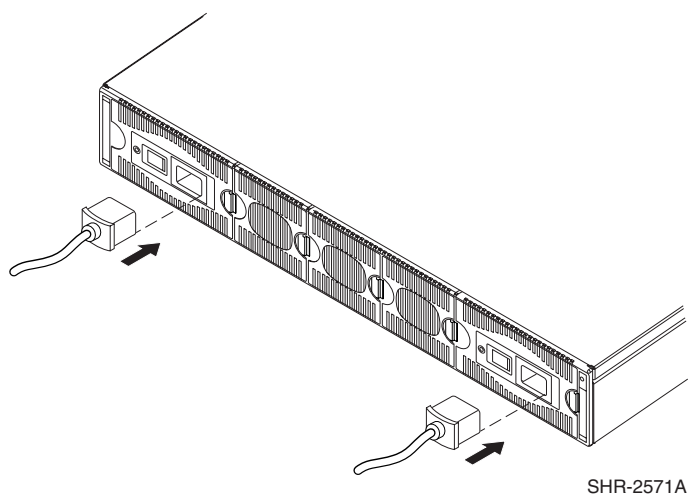

Figure 13: Connecting the power cords
1. Connect the SAN Switch 2/32 power cords to the power connectors on the switch as shown in Figure 13.